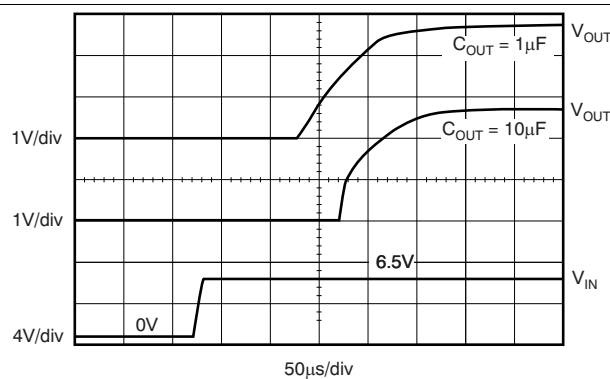

Figure 29. Turn-On Response
Note that for fastest startup, apply V_{IN} first, then the enable pin (EN) driven high. If EN is tied to IN, startup is somewhat slower. Refer to Figure 29 in Typical Characteristics. The quick-start switch is closed for approximately 135 μ s. To ensure that C_{NR} is fully charged during the quick-start time, use a 0.01- μ F or smaller capacitor.